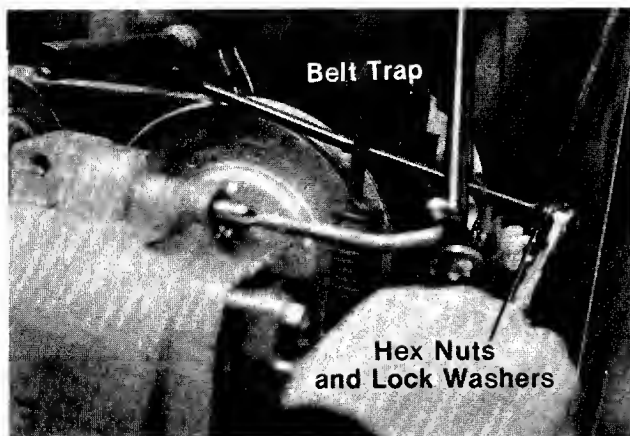

FIGURE 30.
4. Remove the belt trap (located on the left hand side of the transaxle pulley) by removing two hex nuts and lock washers. See figure 30.